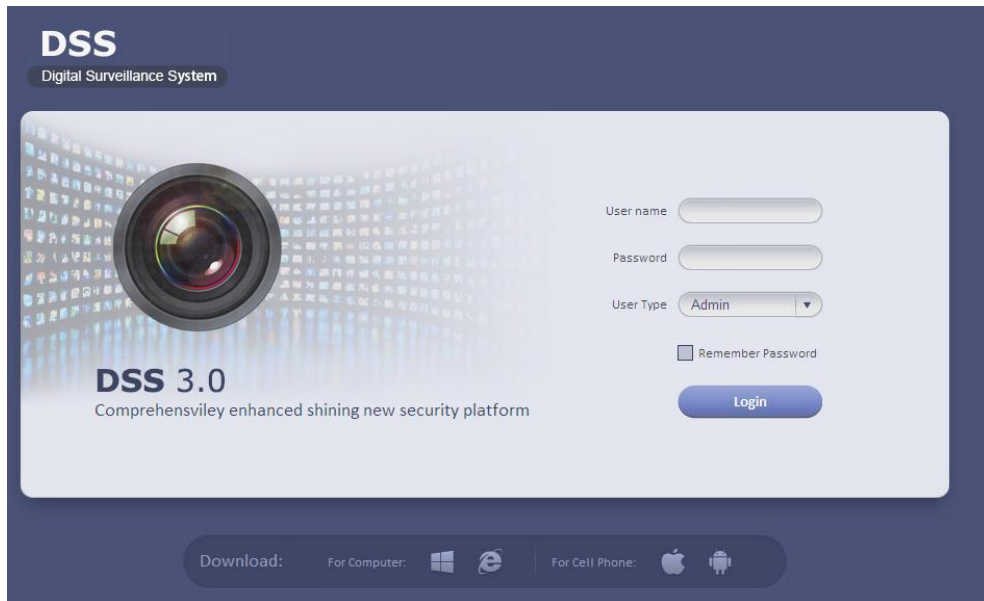

Figure 2-4
- a) Please input the IP address you set in chapter 2.1 on the IE and then click Enter button. System pops up the following dialogue box. See Figure 2-4.